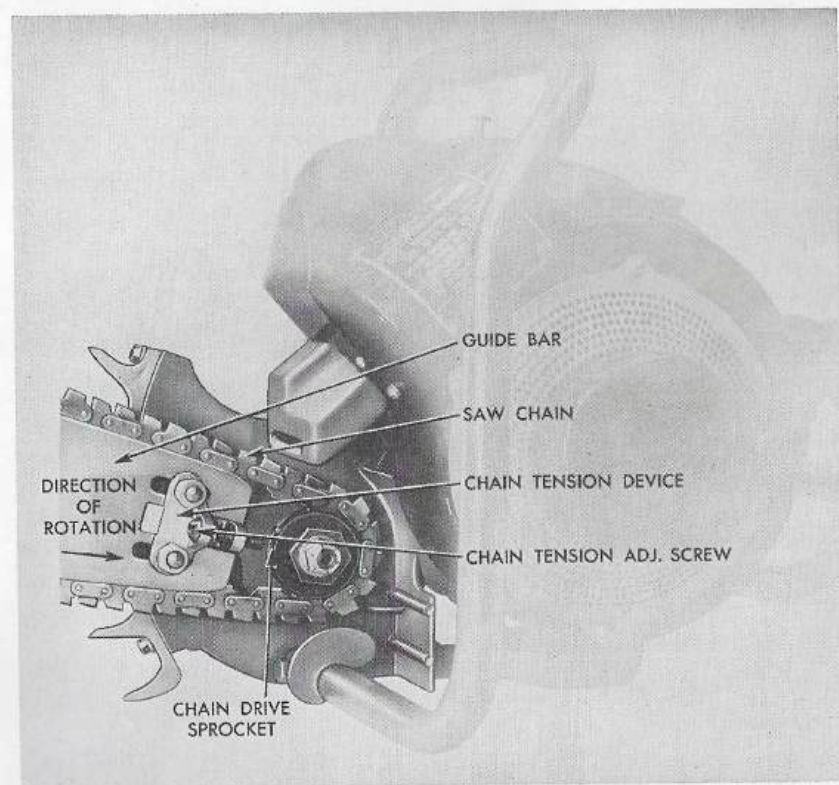

Figure 2—Assembling Guide Bar
b. Assembling Saw (See Figure 2)
- (1) To assemble, place guide bar on locating studs, guide bar shim between guide bar and drive case. Place chain tension device on studs and fasten in place with a $\frac{3}{8}$ " lockwasher and a $\frac{3}{8}$ -16 hex nut on each stud. Tighten nuts just enough to hold tension device and guide bar in place.
- (2) Turn adjusting screw counterclockwise as far as it will turn without forcing to give clearance for assembling chain.
- (3) Slide chain over chain drive sprocket and feed into guide bar groove. Sprocket and chain travel in a counterclockwise direction when looking at sprocket from engine end of saw. Check to be sure cutting edge of chain rotates toward bottom of sprocket.